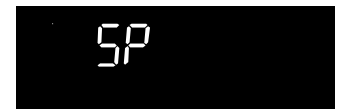

Fig. 2
2. Press  to switch between normal sound operation and silent operation mode. The display will show either "SP" (Fig. 2) or ":-" (Fig. 3).
If "SP" appears (Fig. 2), the control will operate with normal sounds and beeps. If ":-" appears (Fig.3), the control is in the silent operation mode.